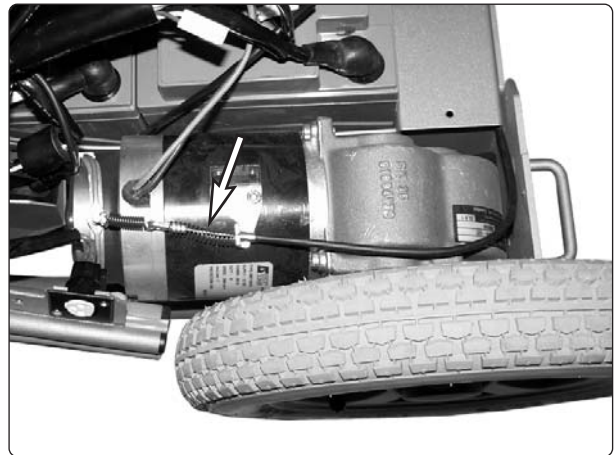

Fig. 20. Remove the brake release cable.
7. Pull the cable sleeve forwards and take the cable out through the slot in the cable mounting, Unhook the brake release cable from the magnetic brake, see fig. 20.